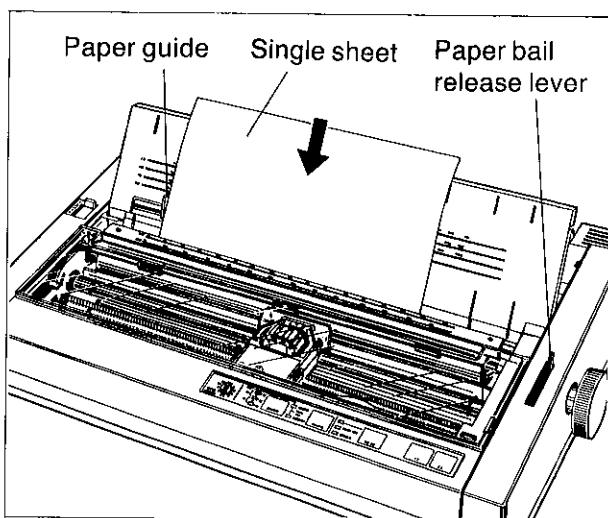

Figure 2.5B Inserting a Single Sheet
- Stand the top cover and insert the paper as Figure 2.5B shows behind the platen. Use the markings and the paper guide on the top cover as a guide.